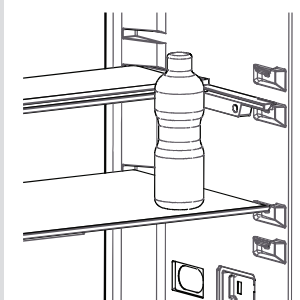

Fig.1
- To bring the shelf in its original position, pull it toward you. (Fig.1)